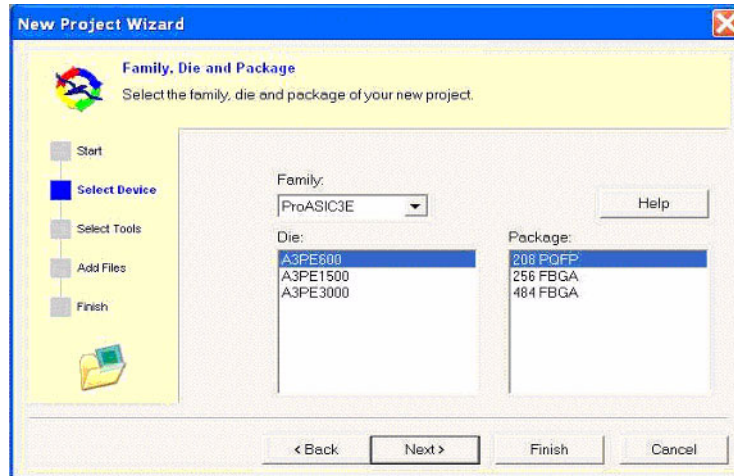
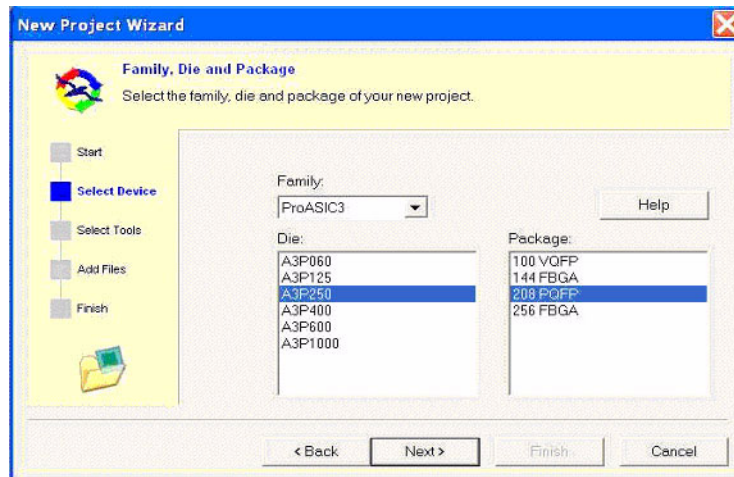

Figure 7-2. Select A3PE600-PQ208
Figure 7-3. Select A3P250-PQ208
6. Select your project **Family, Die, and Package**. For this tutorial, you can select **ProASIC3E**, the **A3PE600** die, and **208 PQFP** for the package (Figure 7-2), or select **ProASIC3**, the **A3P250** die, and **208 PQFP** for the package (Figure 7-3).